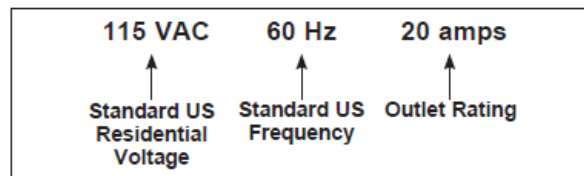
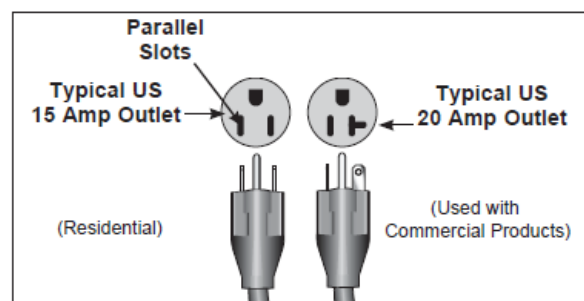

Figure 1
Figure 2
- Attach the safety clip to your clothing before each workout and when treadmill is in use. (See Fig 2)
For example, in the United States some TRUE treadmills require a circuit rated 115 VAC, 60 Hz and 20 amps. See Figure 1. However, a home typically has 15 amp outlets. In this case, contact an electrician to install a 20 amp dedicated line prior to use. See Figure 2.